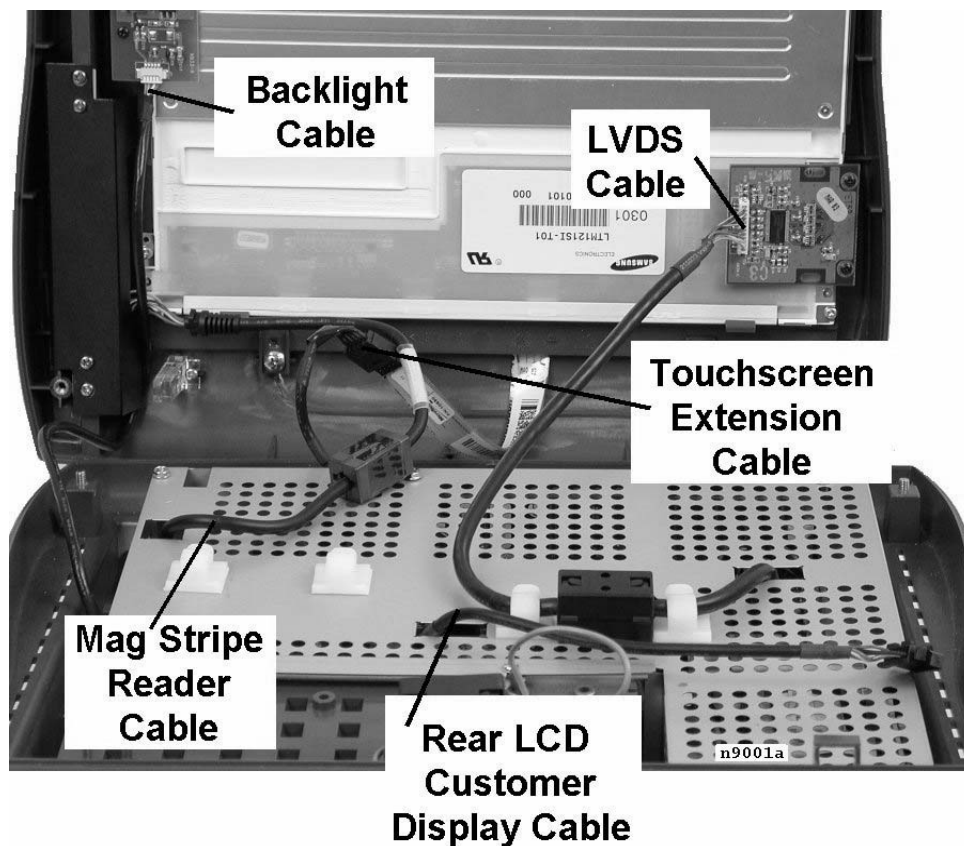
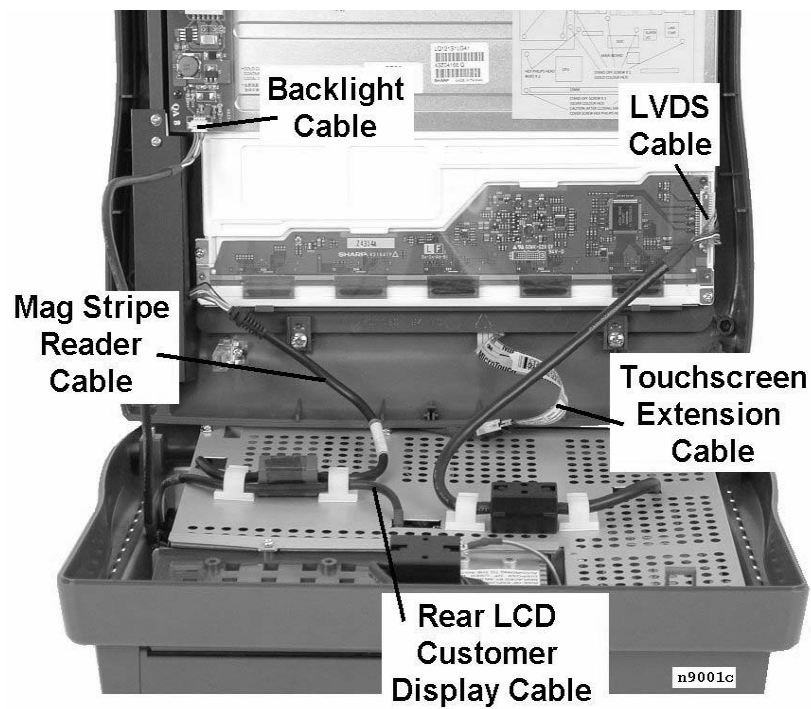

Figure 2-3: Removing Cables from the Top Cover - Samsung LCD
Figure 2-4: Removing Cables from the Top Cover - Sharp LCD
7. Remove the remaining cables between the top cover and the base. If a Samsung LCD is installed, refer to Figure 2-3. If a Sharp LCD is installed, refer to Figure 2-4.